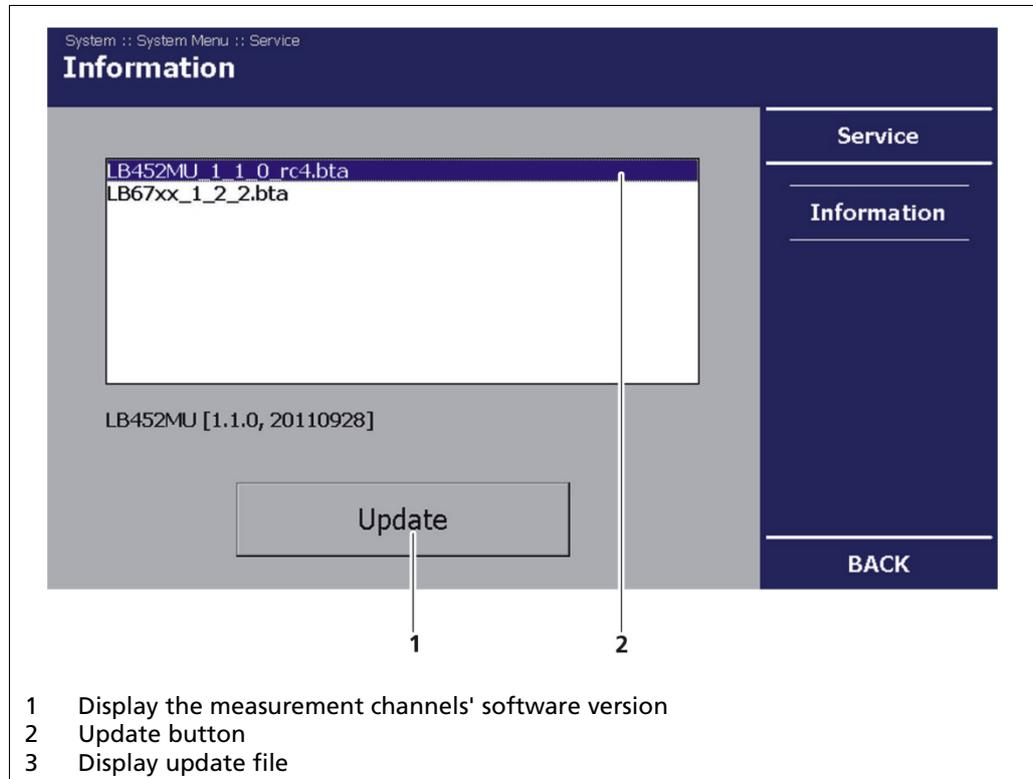

Fig. 44 System Menu, Service - Information (Measurement channels update)
3. Select the appropriate update file (Fig. 44, Item 2).
4. Click on **<Update>** (Fig. 44, Item 1).